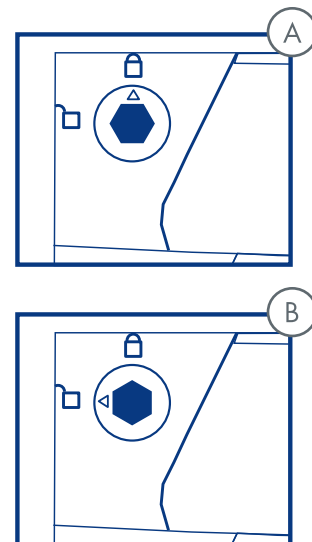

Fig. 2.6.
3. Turn the key to the right until the arrow on the lock aligns with the "locked" symbol (A). See Fig. 2.6.
2. Turn the key to the left until the arrow on the lock aligns with the "unlocked" symbol (B). See Fig. 2.6.